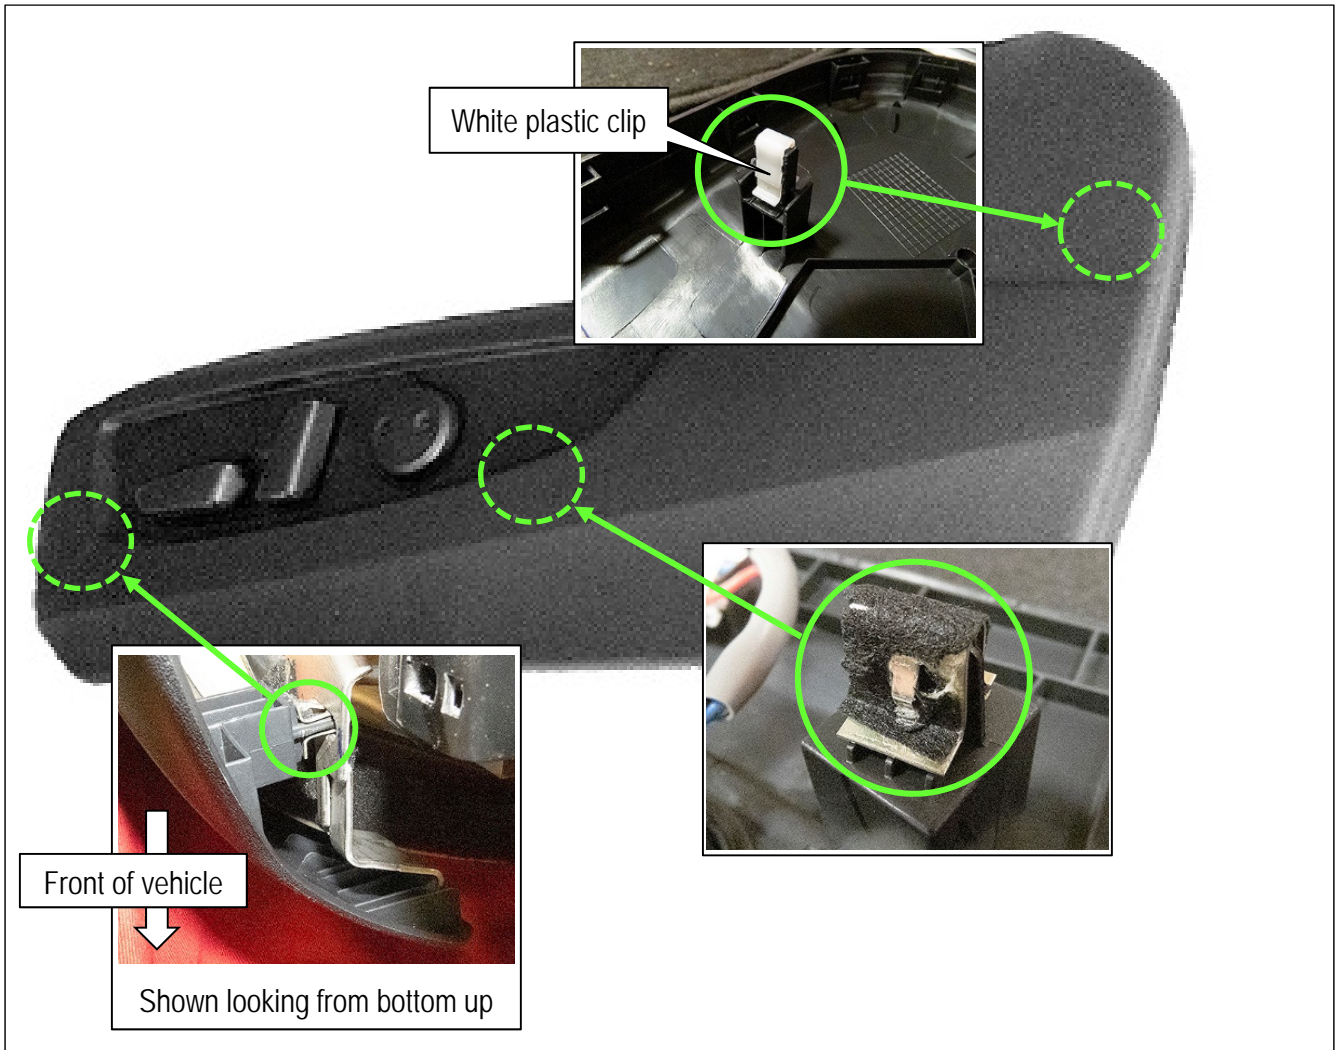

Figure 11
21. Confirm that the white plastic clip shown in Figure 11 is attached to the seat switch finisher. If still attached to the seat frame, remove it and relocate it back to the seat switch finisher.
30. Remove the felt tape from the 2 metal clips on the switch finisher, and apply new felt tape (see Figure 11 on page 10 for locations).